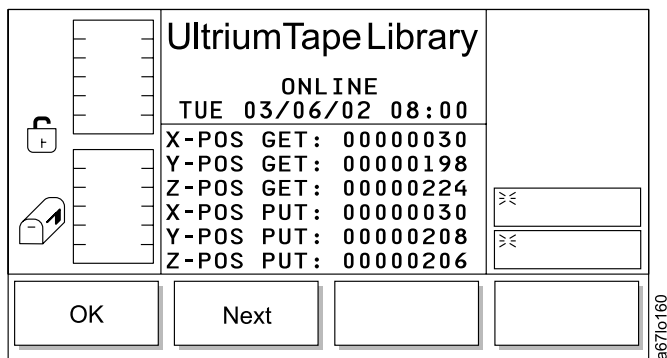

Figure 91. Position Dialog
- If **Next** is selected, the Position Dialog displays (see Figure 91).